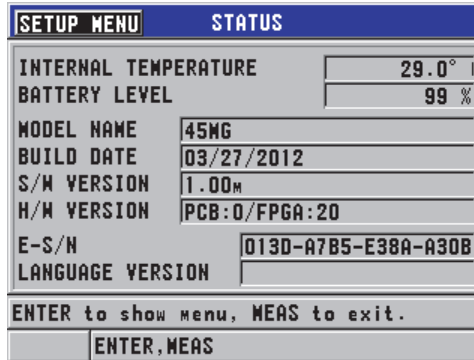

Figure 12-5 Example of the STATUS screen
- In the **SP MENU** (see Figure 4-2 on page 45), select **STATUS** (see Figure 12-5 on page 207).